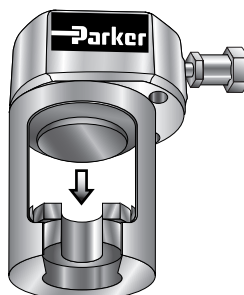

Figure 48
2. Insert "U-shaped" Nut die into the Nut Die Adapter of the Hydraulic Ram as shown in Figure 48.